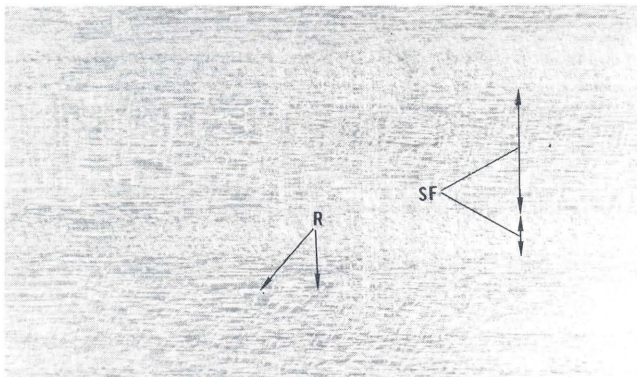

Figure 20 — Red Lauan. Radial surface with prominent rays, R. Stripe figure, SF, consisting of alternating bands of varying light reflection.
23. Pores large and conspicuous on radial or tangential surface, prominent rays on some surfaces, no growth rings, stripe figure common on radial surface (Fig. 20, 21) **Lauan**